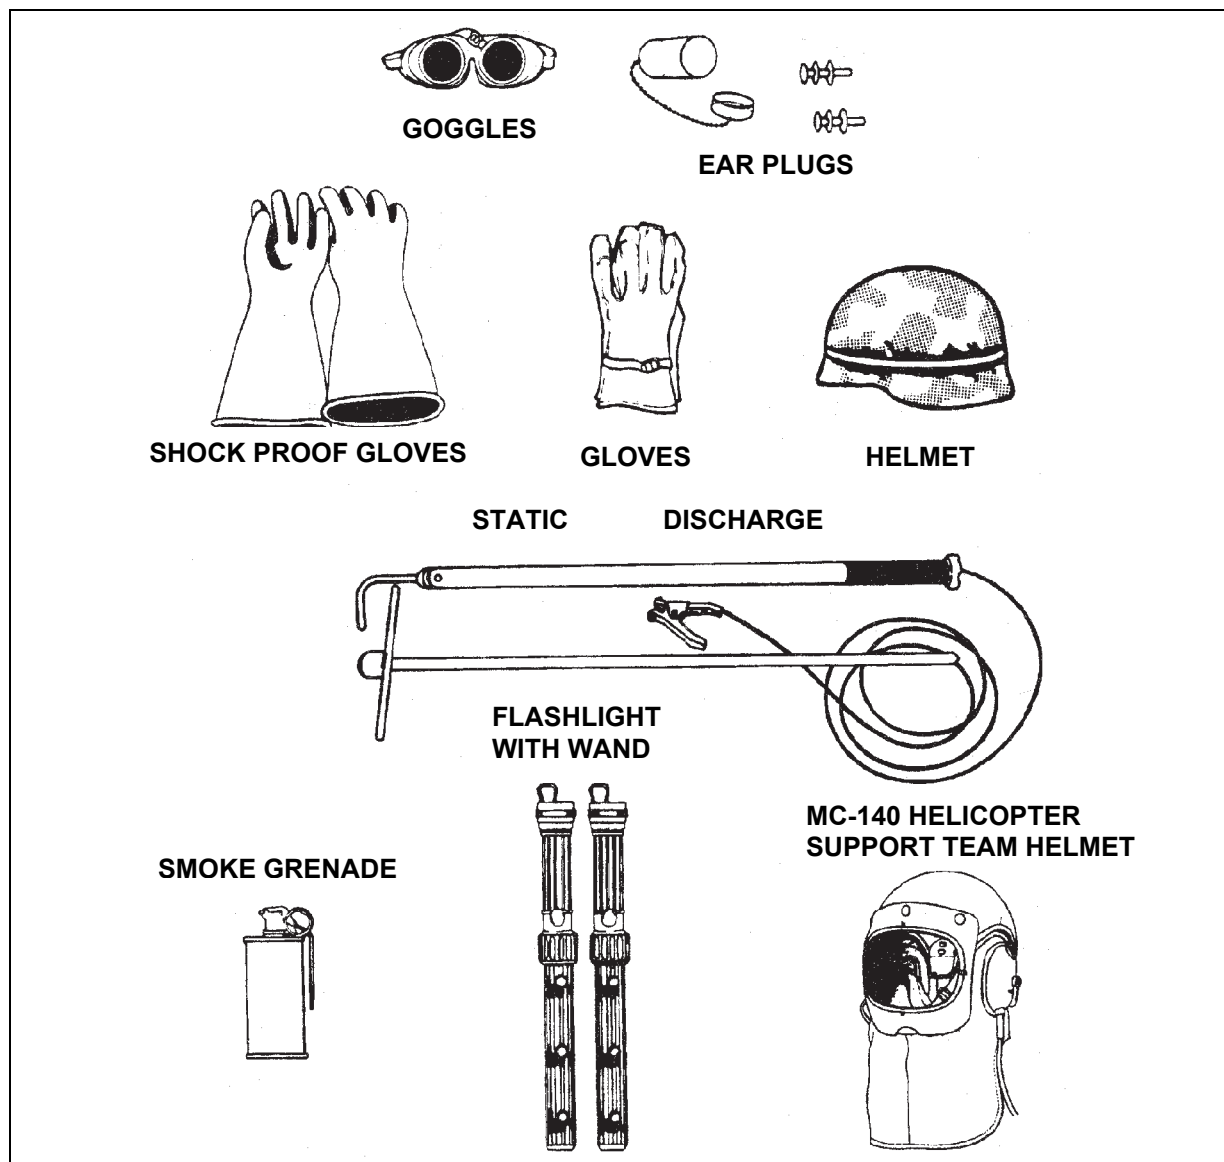

Figure 3-1. Personal Protection Equipment
- **Other Equipment.** The static discharge wand is used to protect the hookup man from static electric shock. Smoke grenades are used to mark the location of the landing site and/or indicate wind direction. Flashlights with wands are used to give hand-and-arm signals at night. Figure 3-1 shows equipment that is normally needed. The equipment national stock numbers (NSN) are listed in appendix B.